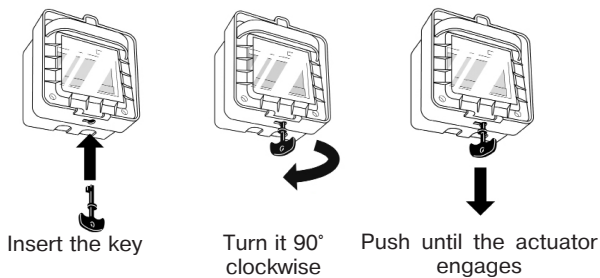

Figure 2
- the actuator should be reset into its original location by means of the supplied key (see Figure 2);